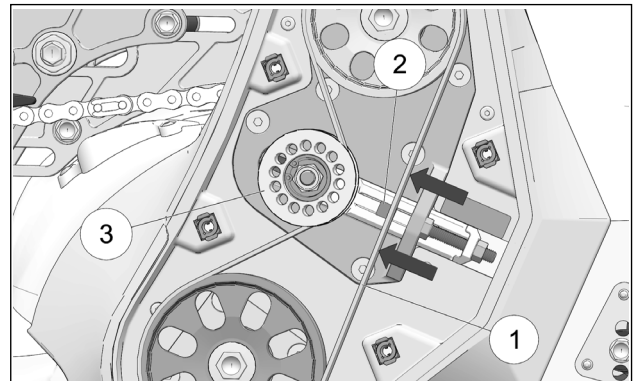

Figure 39
- With your thumbs, apply pressure to the belt (1), where the tension gauge (2) sits, toward the tensioner pulley (3). See Figure 39.